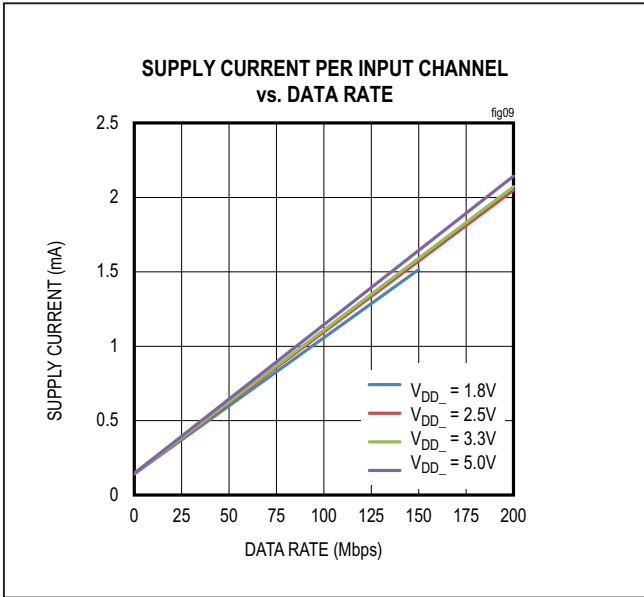
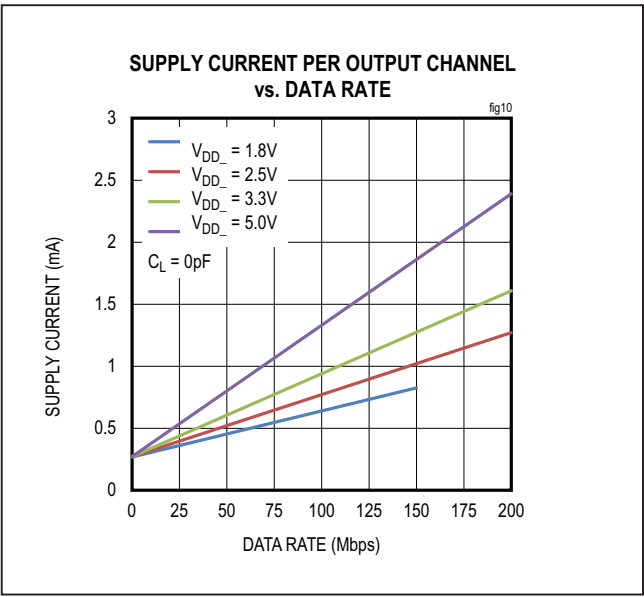

Figure 9. Supply Current Per Input Channel (Estimated)
Figure 10. Supply Current Per Output Channel (Estimated)
The required current for a given supply (V_{DDA} or V_{DDB}) can be estimated by summing the current required for each channel. The supply current for a channel depends on whether the channel is an input or an output, the channel's data rate, and the capacitive or resistive load if it is an output. The typical current for an input or output at any data rate can be estimated from the graphs in Figure 9 and Figure 10. Please note that the data in Figure 9 and Figure 10 are extrapolated from the supply current measurements in a typical operating condition.
The total current for a single channel is the sum of the “no load” current (shown in Figure 9 and Figure 10) which is a function of Voltage and Data Rate, and the “load current,” which depends on the type of load. Current into a capacitive load is a function of the load capacitance, the switching frequency, and the supply voltage.
- Channel 1 is an input channel operating at 2.5V and 20Mbps, consuming 0.33mA, estimated from Figure 9.
- Channel 2 and 3 are input channels operating at 2.5V with DC signal, consuming 0.14mA, estimated from Figure 9.
- Channel 4 is an output channel operating at 2.5V and 100Mbps, consuming 0.77mA, estimated from Figure 10.
- Channel 1 is an output channel operating at 3.3V and 20Mbps, consuming 0.40mA, estimated from Figure 10.
- Channel 2 and 3 are output channels operating at 3.3V with DC signal, consuming 0.27mA, estimated from Figure 10.
- Channel 4 is an input channel operating at 3.3V and 100Mbps, consuming 1.11mA, estimated from Figure 9.